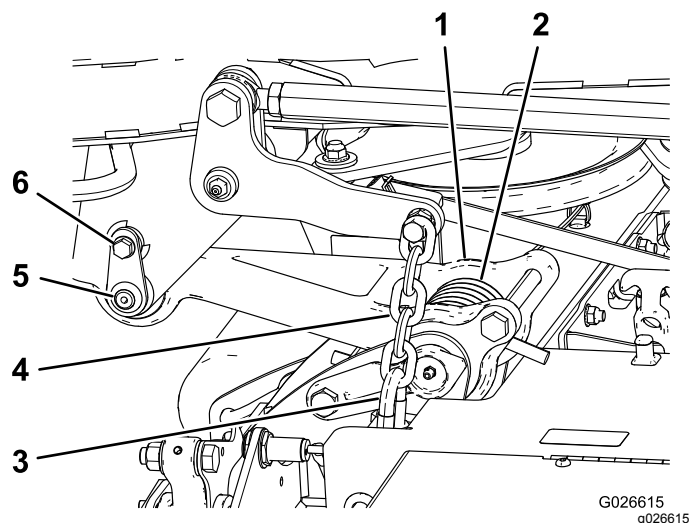

Figure 19
Note: Place a wood block or similar shim under each link to hold it in the raised position (Figure 19).
2. Align the pull link to the carrier frame and attach the link with the retainer pin (Figure 19).
3. Secure the retainer pin to the frame with the shoulder screw (Figure 19).